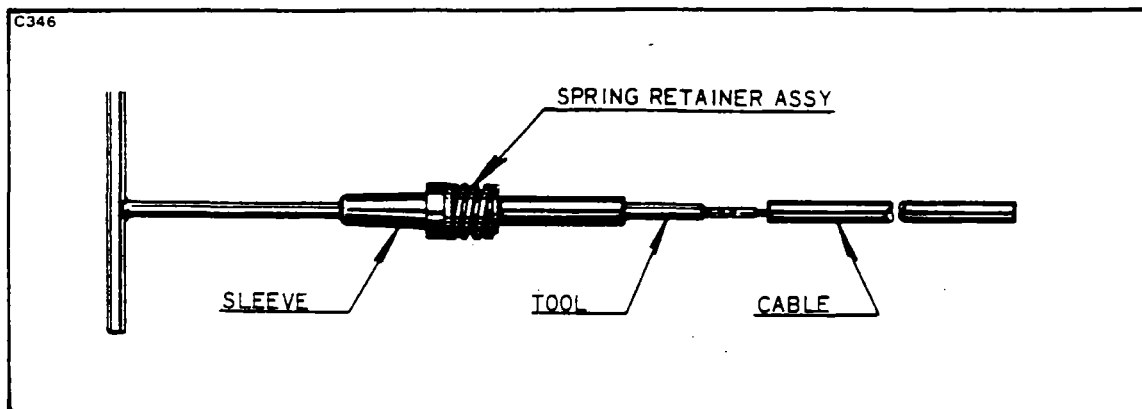

Figure 8-32. Using Assembly Tool
3. Push the fabricated tool through insulating sleeve and spring retainer assembly as shown in Figure 8-32. Screw the cable terminal into the tool.